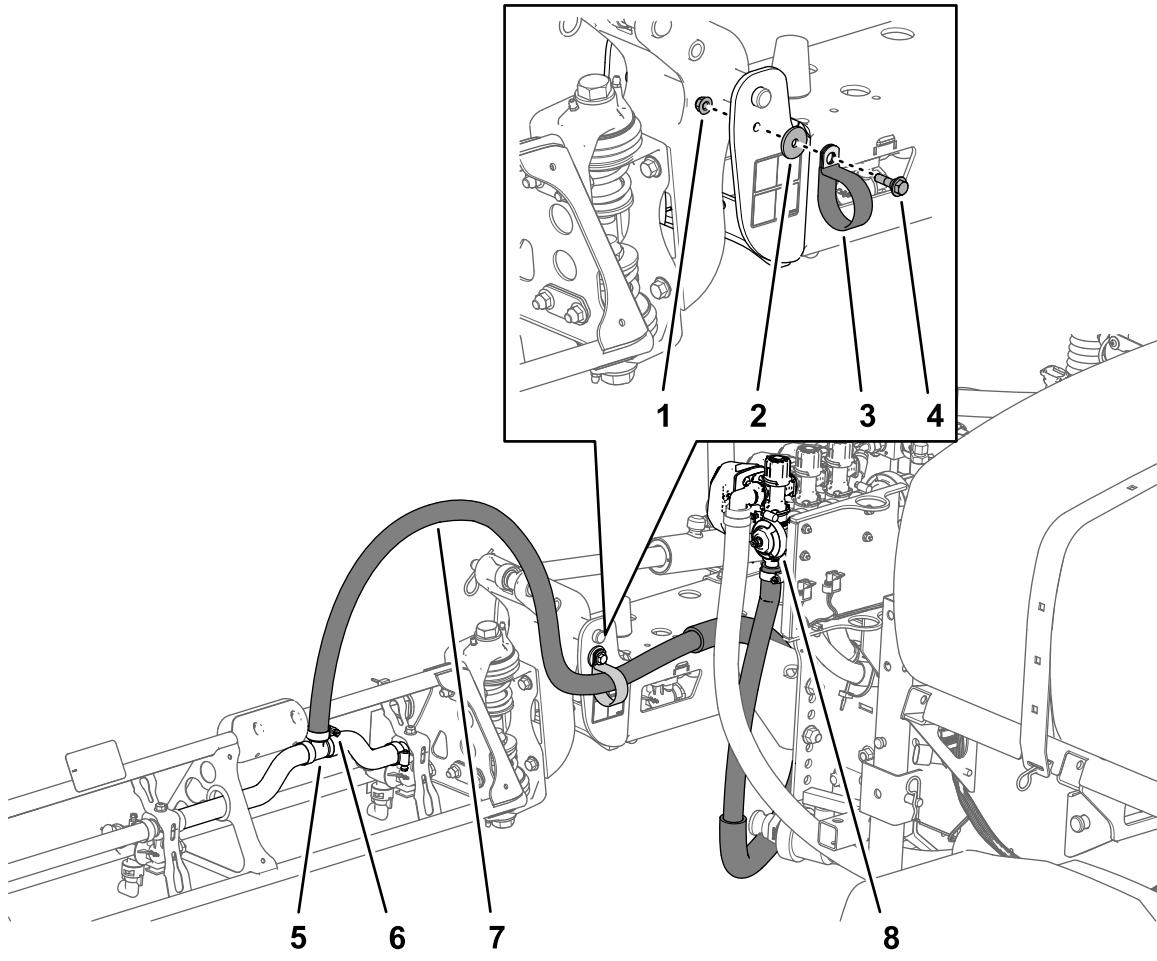

Figure 43
1. Route the boom-section hoses as shown in Figure 42 and Figure 43.
2. Secure the boom hoses to the front side of the center boom section (Figure 42 and Figure 43) with 1 R-clamp, 1 shoulder bolt (5/16 x 1 inch), 1 locknut (5/16 inch), and 1 washer (5/16 inch).
3. Install the boom section hose over the barbed T-fitting at the boom section and secure the hose with a hose clamp (Figure 42 and Figure 43).